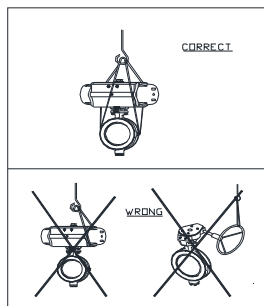

Fig 1.2 Lifting of the Valve
- 4.5 Lever or hand wheel of gear operator for respective valves are packed loosely and kept in the same box, in which the valve is packed (wherever applicable). When handling the valve either by hand or by mechanical means, special care should be taken not to damage the lever or gear operator. Lift the valve only as shown in fig. 1.2. Lifting the valve from any other location may damage the valve components.